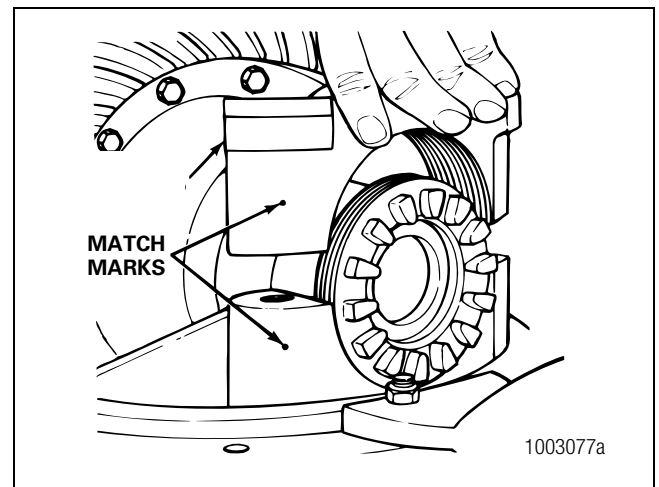

Figure 5.28
7. Install the bearing caps over the bearings and adjusting rings in the correct location as marked before removal. Figure 5.28.